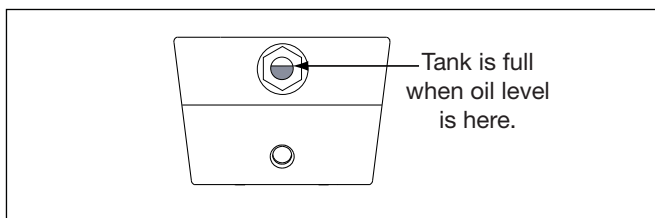
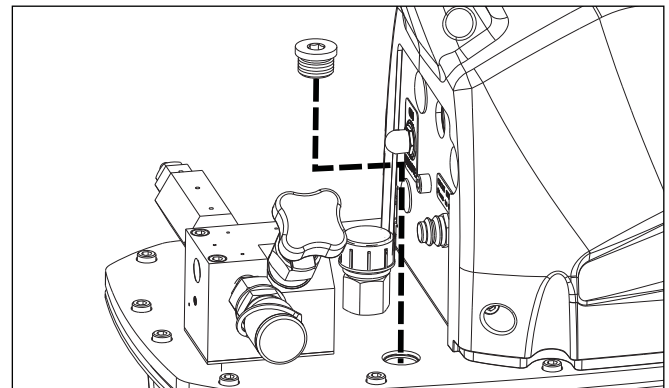

Figure 2, Oil Level Sight Glass
Figure 3, Oil Fill Plug
4.2 Oil Level (See Figures 2 and 3)
Check the pump oil level prior to start-up. The reservoir is full when the oil level is as shown in Figure 2. If necessary, remove the oil fill plug from the cover plate as shown in Figure 3 and add oil as required.
Check the pump oil level prior to start-up. If oil level is low, remove the oil fill plug from the cover plate and add oil as needed. See figures 2 and 3. Always be sure that hydraulic tools are fully retracted before adding oil to the reservoir.
8. Fill the reservoir with clean Enerpac HF hydraulic oil. The reservoir is full when oil level is as shown in Figure 2.